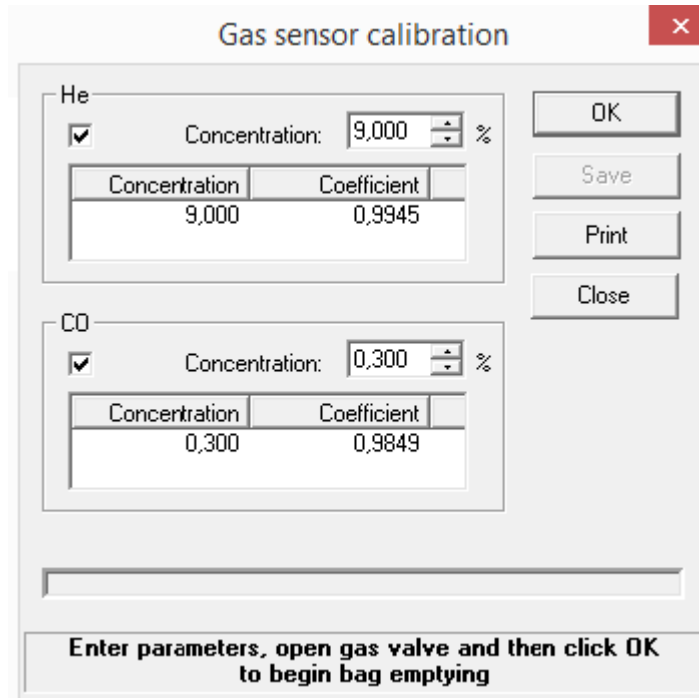

Fig. 22. Dialog box *Gas sensor calibration*
The gas sensor calibration is performed in the dialog box *Gas sensor calibration* (⇒ Fig. 22) called up with prior selection of the command *Calibrate gas sensor* (menu *Tools*).
1. Select the command *Calibrate gas sensor* (menu *Tools*) to open the dialog box *Gas sensor calibration* (⇒Fig. 22), and this gas will be used for calibration. Observe *Prompt box* (⇒ Chapter 17.6) to follow what should be done at any moment.